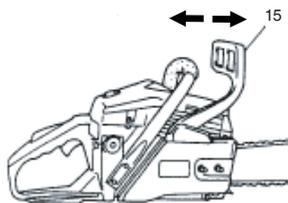
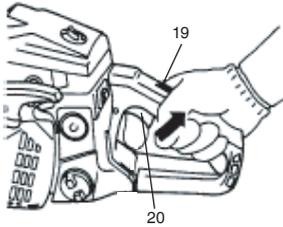

Fig. 10
Fig. 14
1. Pull the chain brake (15) toward the front handle to check that the chain brake is disengaged. (Fig. 10)
Starting (Fig. 10 – 14)
Before starting, push the chain brake (15) so that the brake is engaged, and make sure that the bar/chain does not touch anything. (Fig. 10)
6. As soon as engine starts, with the throttle trigger lockout (19) pressed, pull the throttle trigger (20) and immediately release the throttle trigger (20). Then half-throttle is disengaged. (Fig. 14). Pull the chain brake (15) so that the brake is disengaged. (Fig. 10)
Chain brake operation (Fig. 10, 15)
Application of brake is made by moving the front guard towards the bar. During the chain brake operation, even if the throttle lever is pulled, the engine speed does not increase and the chain does not turn. To release the brake, pull up the chain brake lever. (Fig. 10)